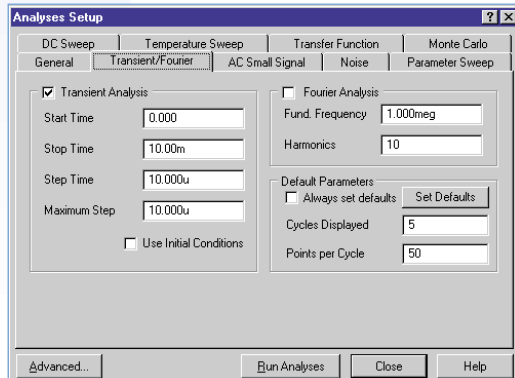

Figure 11
- The simulation will be performed, when it is finished you should see output waveforms similar to those shown in Figure 11.